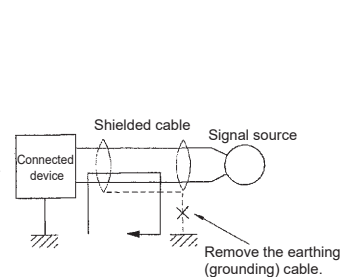

Fig. App 2.14 Removing the earthing (grounding) cable
- Do not connect the shield to the earth (ground), inverter, enclosure, and other modules. (Refer to Fig. App 2.14.)